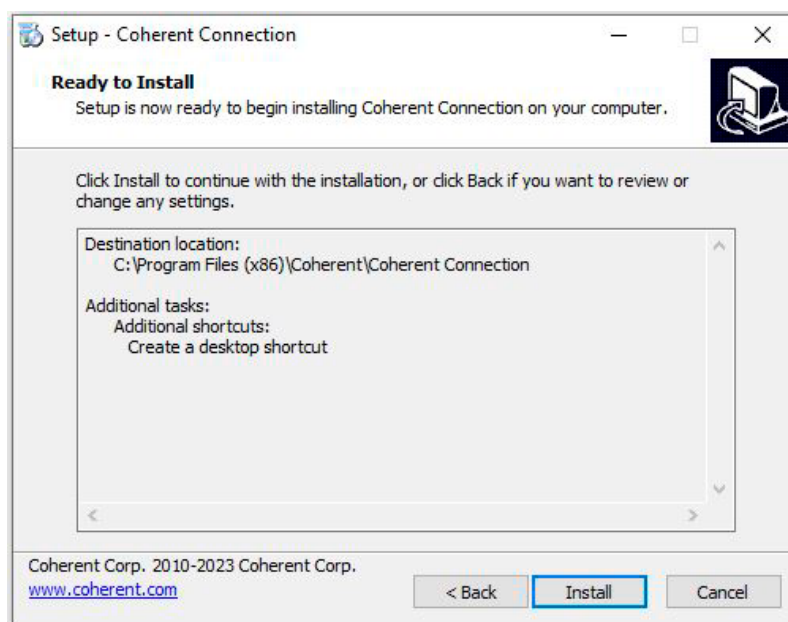

Figure 3-6. Review Set-Up before Installation Starts
8. The set-up utility is now prepared to start installation of Coherent Connection software on the computer. Review the location and icons, as shown in the example in Figure 3-6, and then click Install.